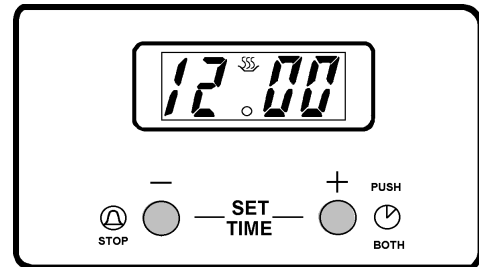

Fig. 3
Within five seconds press and hold either button (1) to decrease or button (2) to increase the time until the correct time of day on the 24 hour clock is reached, e.g. 14:30. The cooking symbol (☹) will go out. See Fig. 3.